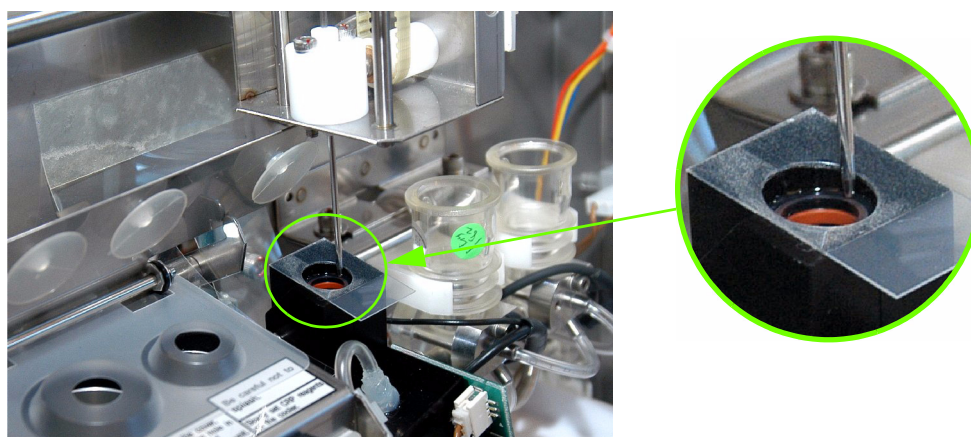

Fig.8: Needle on glass chamber
- ◆ Manually move on the right hand side the carriage and move down the needle until it touch the edge on the right hand side of glass chamber (See "Fig.8: Needle on glass chamber, page 4").